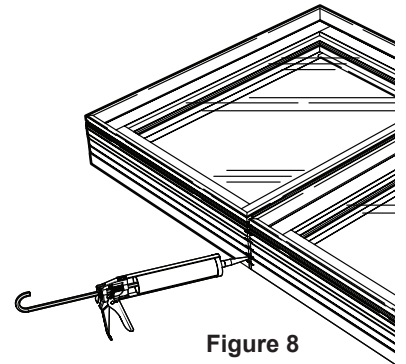

Figure 8
- Fill the ends of the mulls with silicone. (Figure 8)